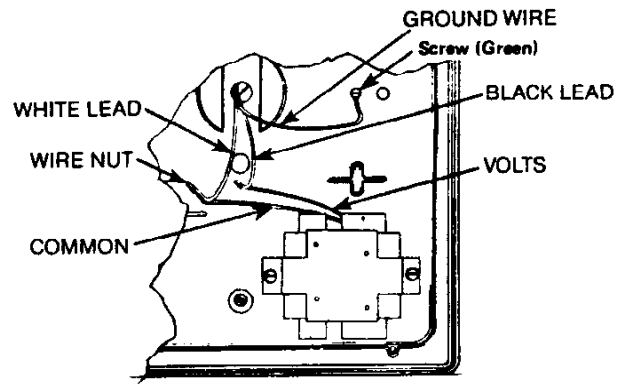

FIGURE 2.
9. Connections to field wires and grounding of fixture must be done in accordance with applicable local and national codes and the wiring diagram shown in Figure 2. Attach ground wire to green screw located to the right of the wire hole.